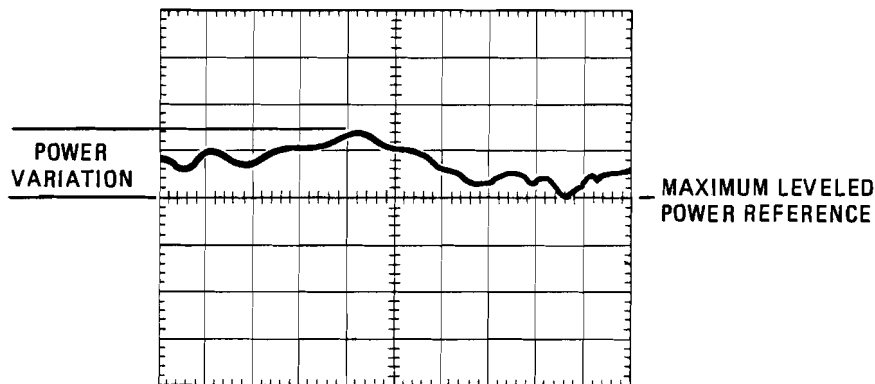

Figure 4-4. Typical Maximum Leveled Power and Variation
15. Use Power Level control to adjust power level such that the minimum power point across the sweep lies exactly on the center line (See example on Figure 4-4). The minimum power on the full sweep is then at the specified maximum power. Check and record the peak power across the whole band on the test record card step 15.